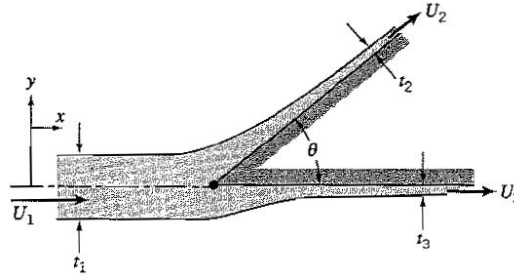

Figure P3.19
3.19 An effectively two-dimensional jet of water impinges on a wedge as shown in Figure P3.19. The wedge is supported at its apex such that the lower surface remains horizontal. If the thicknesses t_2 and t_3 are equal and $U_2 = U_3 = 2U_1$, find the angle for which the magnitude of the x - and y -components of the reaction force at the apex are equal. Neglect gravity. The pressure is atmospheric everywhere.